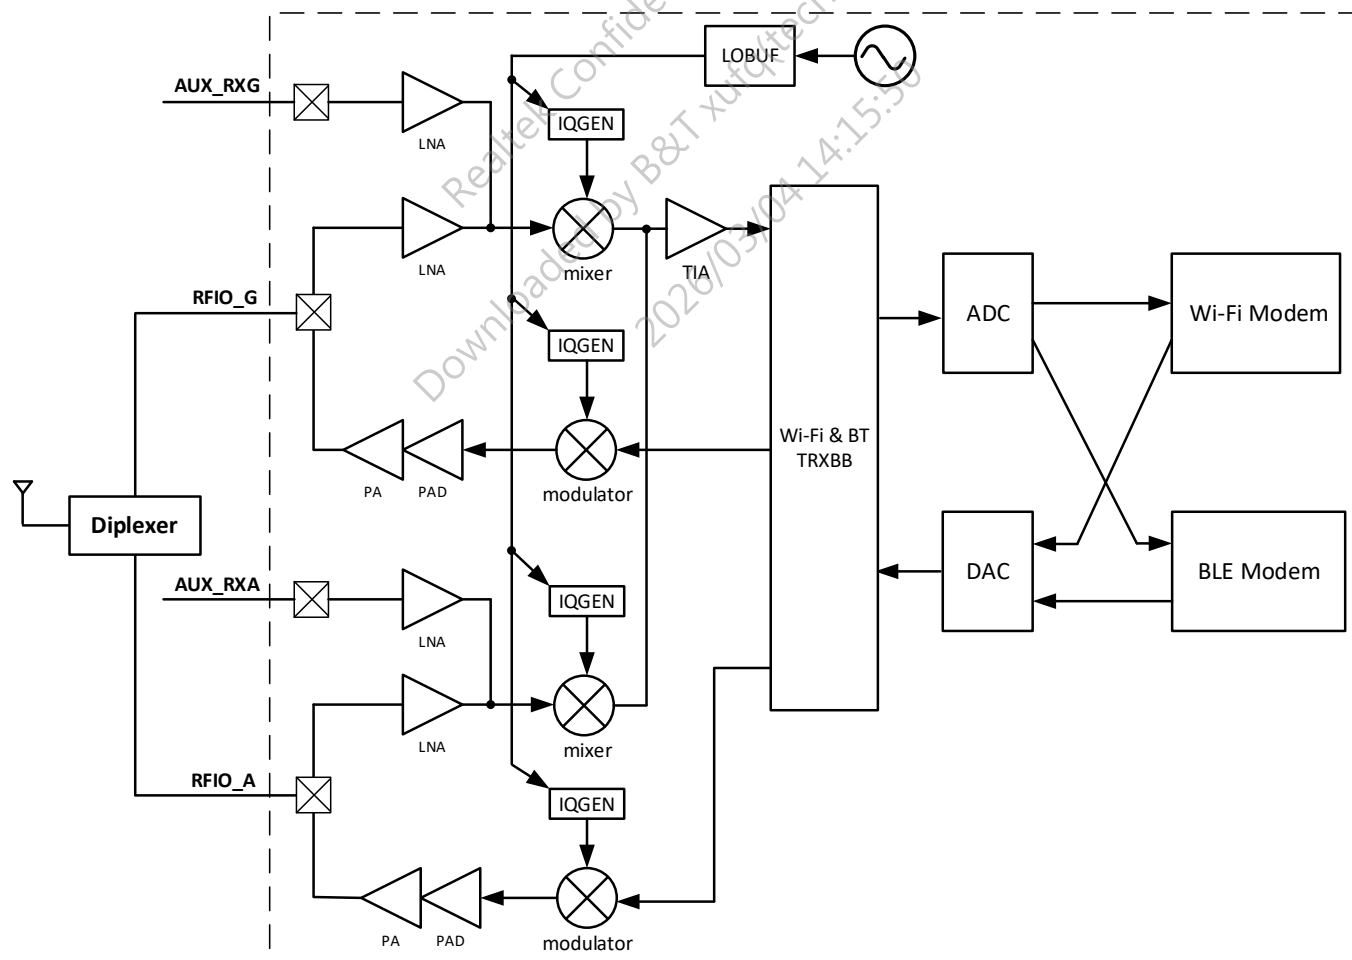

Figure 7-4 RF block diagram
The Radio Frequency (RF) block diagram of RTL8711F, including WLAN and BT modem, is given in Figure 7-4.